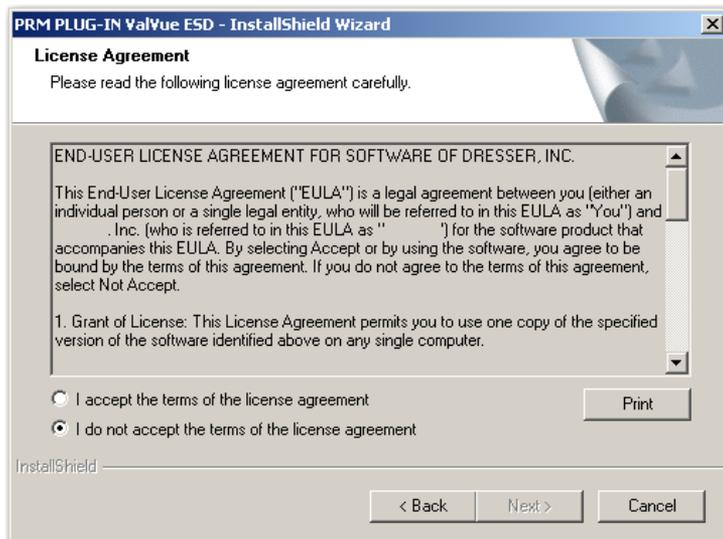

Figure 14 PRM Plug-In License Agreement
3. Click **Next** and the *License Agreement* screen appears (Figure 14).